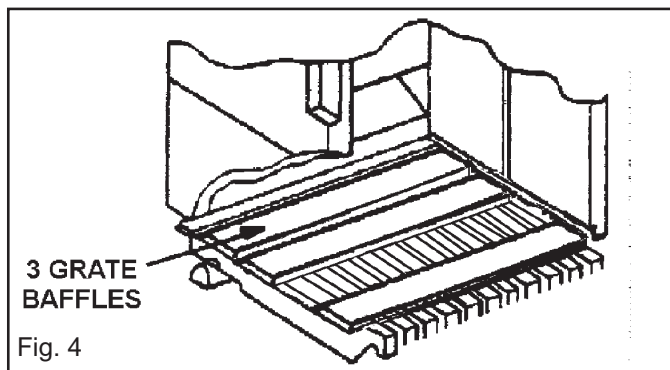

Fig. 4
- To obtain the optimum burning rate all grate baffles must be located on the top face of the reciprocating bars at the rear of the firebox (See Fig. 4). Grate riddling is not required.